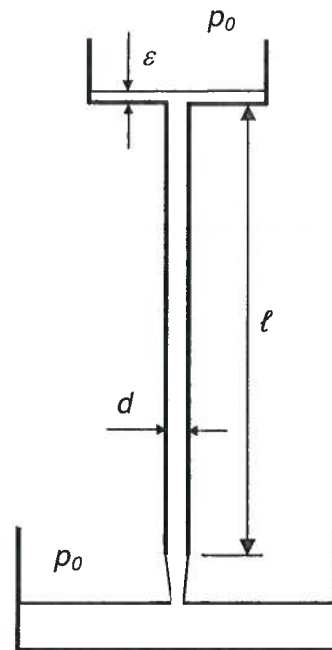

Fig. 3 Set-up for flow test
d). A student likes to test the Poiseuille equation for laminar flow in a circular tube. In order to do this he uses a reservoir and connects a tube to the outflow opening of the reservoir (see figure 3). The experiments are performed in a laboratory where the atmospheric pressure has a constant value (p_0). He/she uses water as liquid, and makes sure that the water level (ε) in the upper reservoir is constant via a supply system (not shown). The length of the tube is ℓ the diameter d . The reservoir is designed in such a way that the height ε is negligibly small ($\varepsilon \ll \ell$), so that no additional hydrostatic effects occur. A second reservoir is placed below the outflow opening to collect the liquid mass that the student will measure after the experiment is made. The outflow opening is above the water level of the lower reservoir, so that hydrostatic effects do not play a role at the outflow side. The student carefully measures the mass of water that is collected over a specific time. In this way the mass flow rate (w) is known.